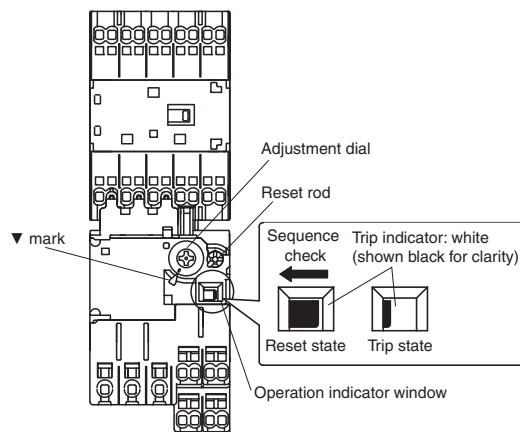

Fig. 1
#### (1) Current settling [Fig. 1]
#### (2) Operation indicator [Fig. 1]
#### (3) Sequence check [Fig. 1]
#### (4) Reset method [Fig. 1]